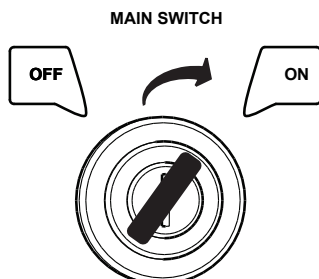

Figure 31. Main Switch (ON Position)
1. Make sure the main switch (ignition switch) key is turned to the **ON** position (Figure 31).